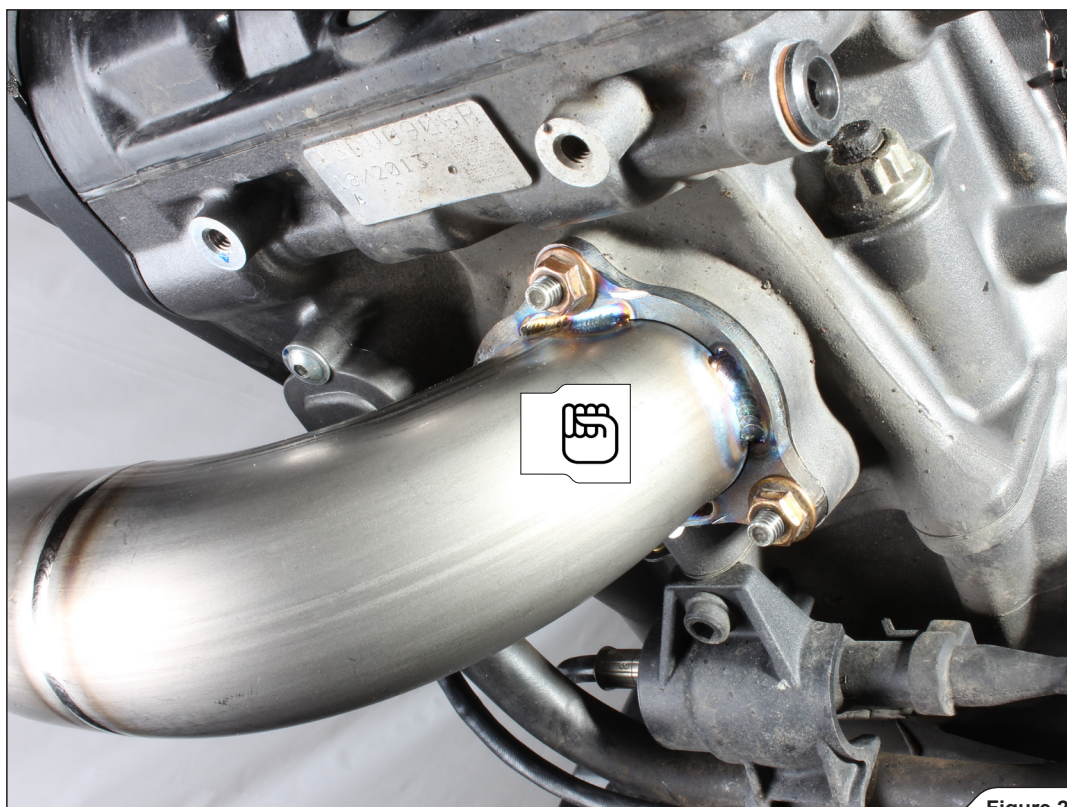

Figure 22
3. Hand tighten the front header onto the cylinder head, using stock nuts (Figure 22).